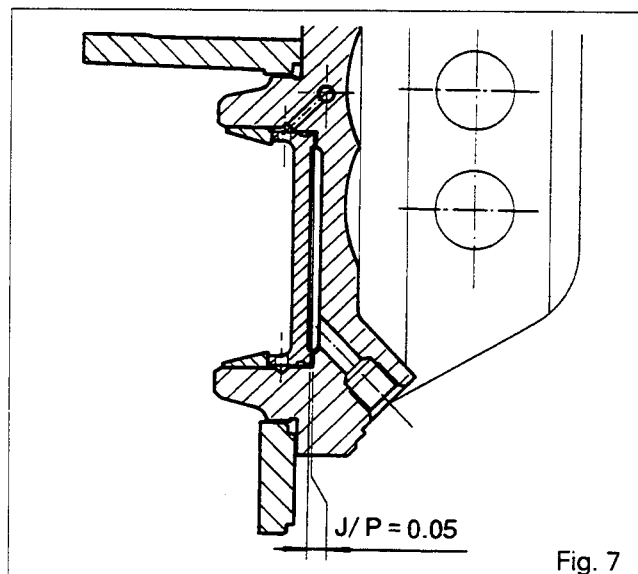

Fig. 7
37. Carry out shimming (Fig. 7) to obtain :